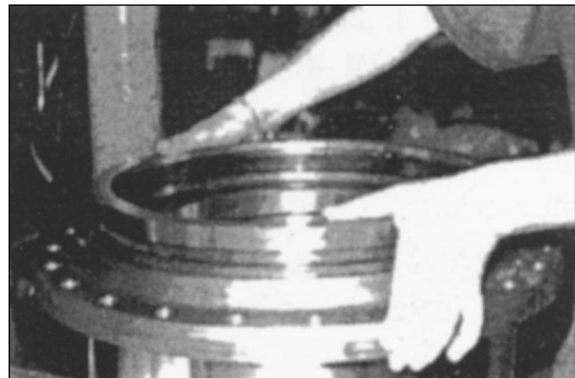

Figure 93
2. Install jig to housing. Figure 93.